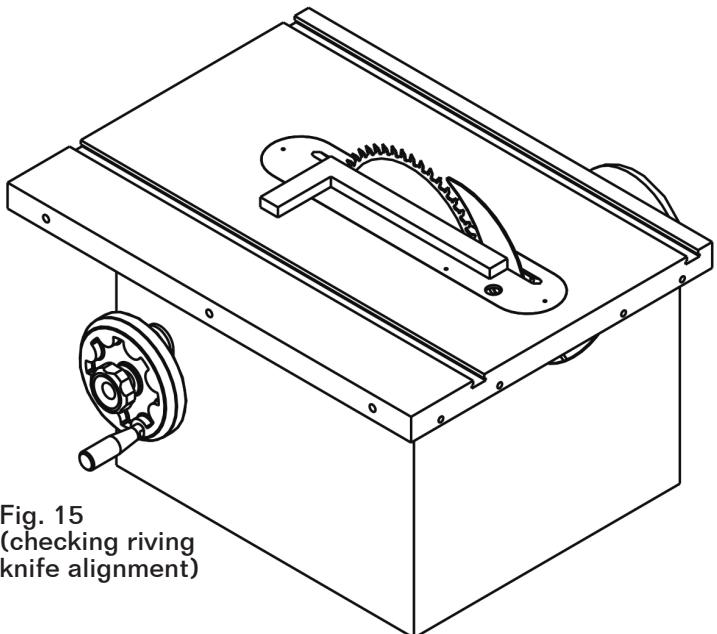

Fig. 15
3. Check both sides of the blade with a straight edge touching the teeth as shown in Figure 15: